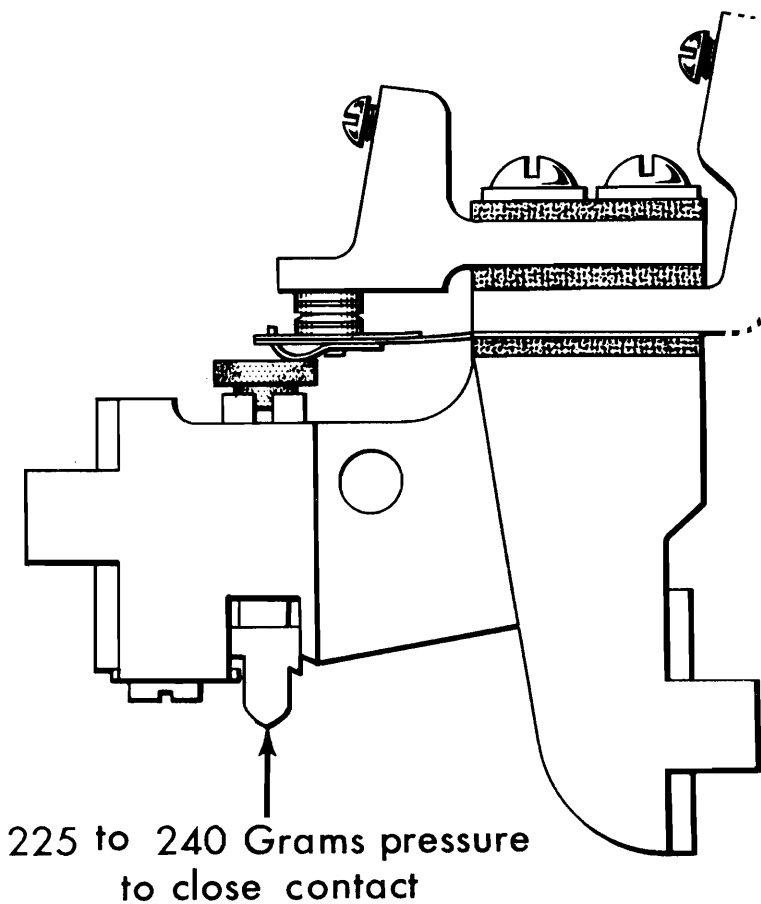

Figure 5. Plunger Circuit Breaker Adjustment 3
3. Check to be sure that the plunger does not bind (Figure 5). The design of the split bushing is such that the coil spring spreads the bushing to create a drag between the bushing and frame which increases the pressure required to close the contact from 160 grams (pressure required to close the contact) to 225 grams (approximately 8 oz.). This friction is used to dampen the rebound when the contact closes. Check to be sure that a maximum of 240 grams applied to the plunger closes the contact.